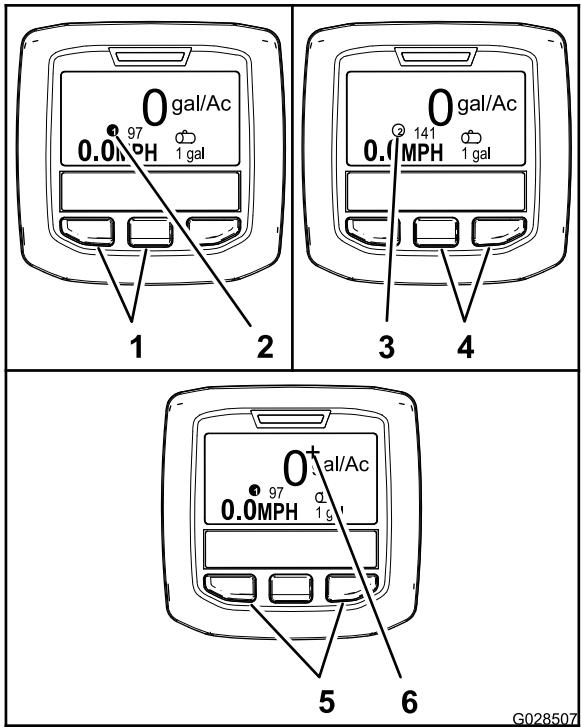

Figure 56
- To select application rate 1, press the left 2 buttons of the InfoCenter (Figure 56).
- To select application rate 2 (application rate), press the right 2 buttons (Figure 56).
- To temporarily apply a boost application rate, press and hold the 2 outer buttons (Figure 56).